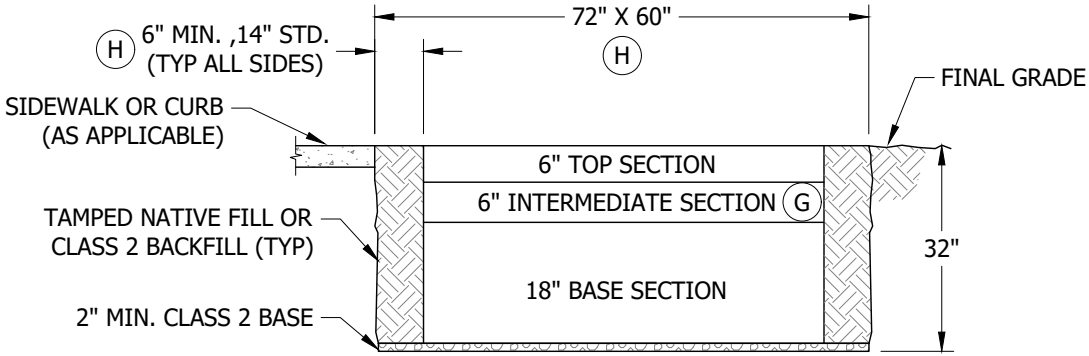

FIGURE 7
- B. AFTER THE LOCATION IS ESTABLISHED, MARK OUT DIMENSIONS FOR THE EXCAVATION WIDTH, LENGTH AND DEPTH PER FIGURES 7 & 8. THE WIDTH AND LENGTH DIMENSIONS GIVEN ALLOW EXTRA SPACE FOR SETTING THE SUBSTRUCTURE AND TAMPING THE BACKFILL.
- (E) APPLY LUBRICANT (EZ-1) TO THE BOLTS WHEN SECURING THE COVERS TO REDUCE REMOVAL OR INSTALLATION DIFFICULTIES. TIGHTEN DOWN BOLTS WITH TORQUE WRENCH TO 30 FT-LBS. MIN., 40 FT-LBS. MAX.
- (F) IF RIGHT OF WAY OR OBSTRUCTIONS CAUSE A PROBLEM, THE HANDHOLE MAY BE TURNED TO WHERE THE LONG SIDE OF THE HANDHOLE PARALLELS THE SIDEWALK OR PROPERTY LINE. IF THE HANDHOLE HOUSES A CABLE TAP, THE HANDHOLE IS NOT TO BE TURNED AND THE TYPICAL PLAN VIEW OUTLINED IN THE STANDARD MUST BE FOLLOWED (CABLE TAP IS MOUNTED ON THE END OF HANDHOLE AND THE FIVE-FOOT CLEARANCE FOR HOT STICK OPERATION WOULD BE ON THE SIDEWALK SIDE).